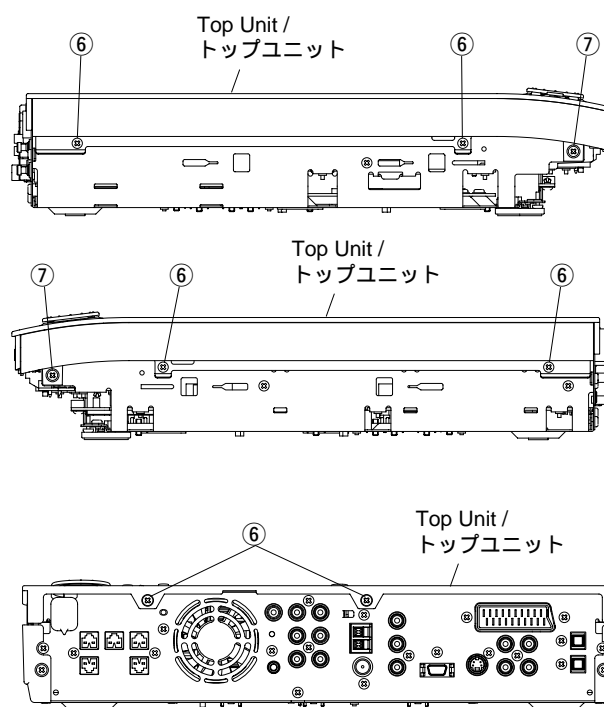

Fig. 4
- Remove 6 screws ( ⑥ ) and 2 screws ( ⑦ ) in Fig. 4.
- ⑥のネジ6本、⑦のネジ2本を外します。( Fig. 4 )